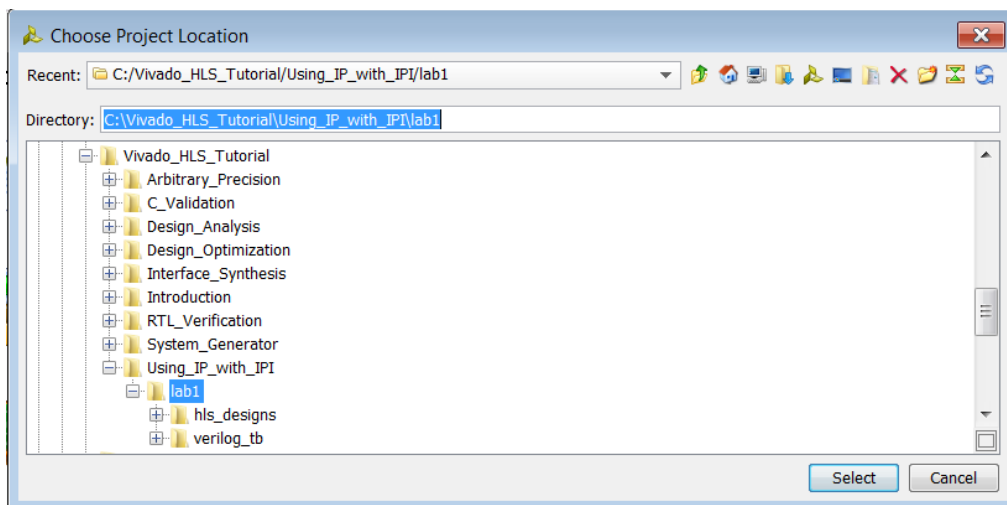

Figure 186: Path to the Vivado Design Suite Project
4. Click the **ellipsis** button to the right of the **Project location text entry box** and browse to the tutorial directory (**Figure 186**).